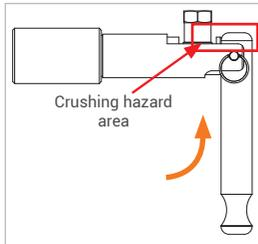

Figure 7
- ▶ Actuate the clamping lever (Pos. 2) back to its initial position (Figure 7).